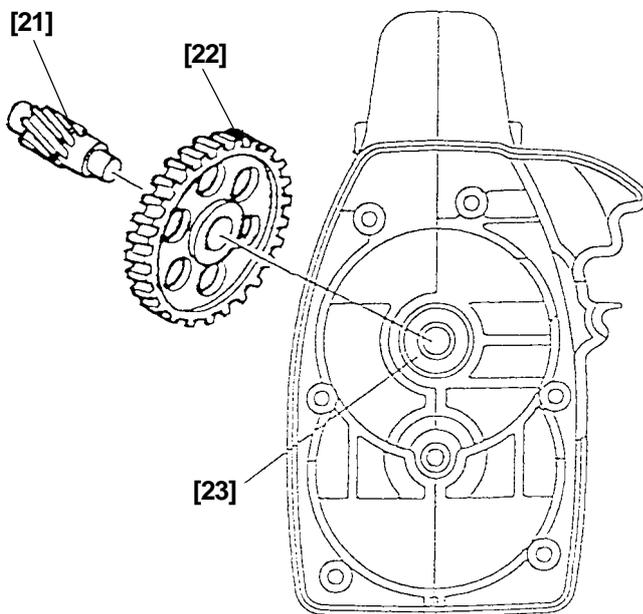

Fig. 40
(i) Insert the Ball Bearing 608VVC2PS2L [23] in the ball bearing chamber of Housing (A) [2] (Fig. 40).
(ii) Press-fit the Third Pinion [21] in the Second Gear [22] and insert it in the Ball Bearing 608VVC2PS2L [23] of Housing (A) [2] (Fig. 40). At this time, apply grease (Nippeco SEP-3A) to the outer circumference of the Second Gear [22].